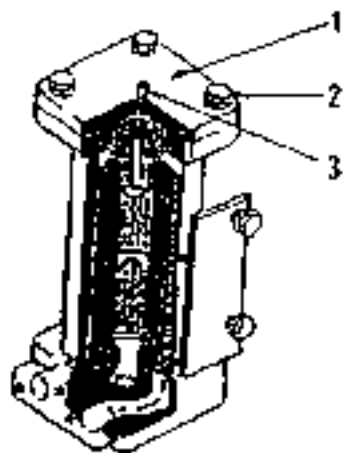

Fig. 5-9
Transmission and steering clutch oil filter elements should be cleaned and replaced as shown in Fig. 5-9. Remove bolt (2), pull up cover (1) and take out element. Then clean the inside of the case and parts. Change new parts if it is necessary. After changing parts start the engine and loosen air bleeding plug (3). Tighten the plug when oil spurts out.